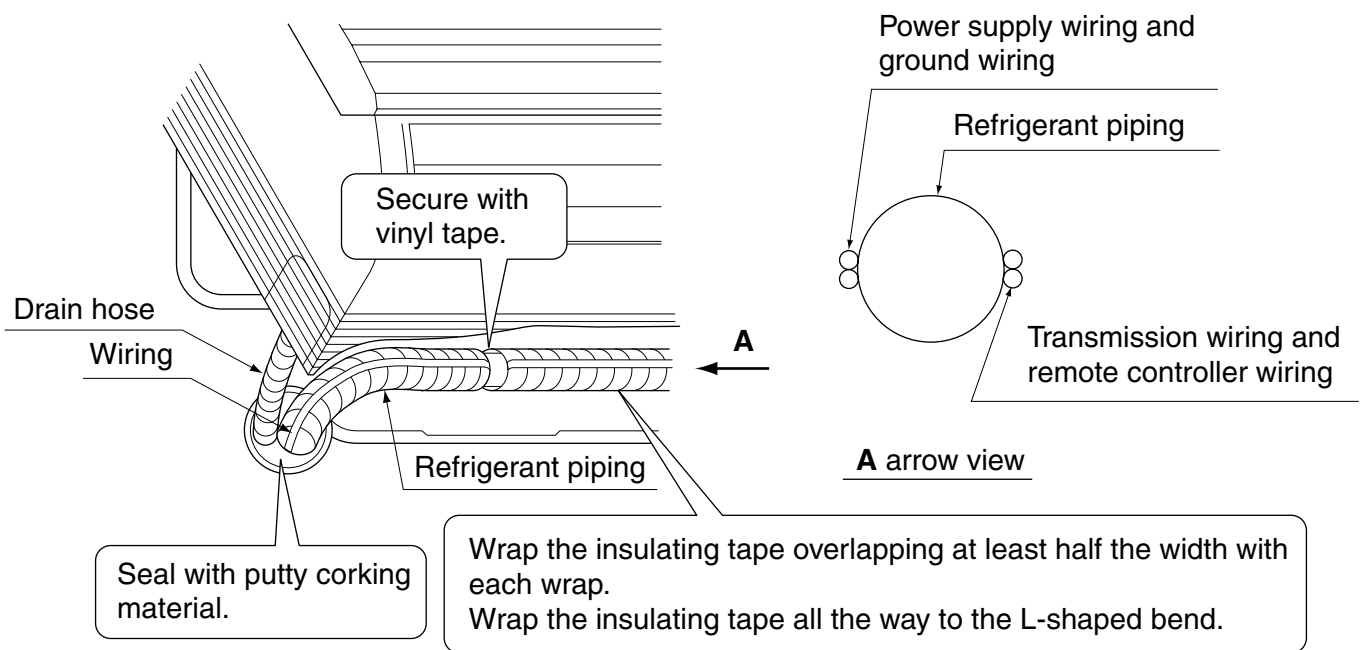

Fig. 10
(7) Pass power supply wiring, transmission wiring, ground wiring, and remote controller wiring through the wiring guide in through the back of the indoor unit and to the front.
(8) Connect the piping. (See “5.REFRIGERANT PIPING WORK” and Fig. 10)